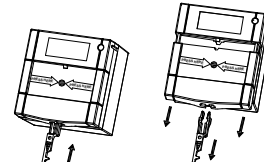

Fig. 3: Separate the front face from the body
NOTE: The unit comes separated from the back-box, ready for installation. However, if necessary, separate the front face from the body by inserting the reset key and gently pulling the lower portion of the front face down and away from the body. Removing the operating element will expose the screws that hold the body to the back-box (see Figs. 3 ~ 5).
1. Separate the front face from the body by inserting the reset key and gently pulling the lower portion of the front face down from the body (see Fig. 3).